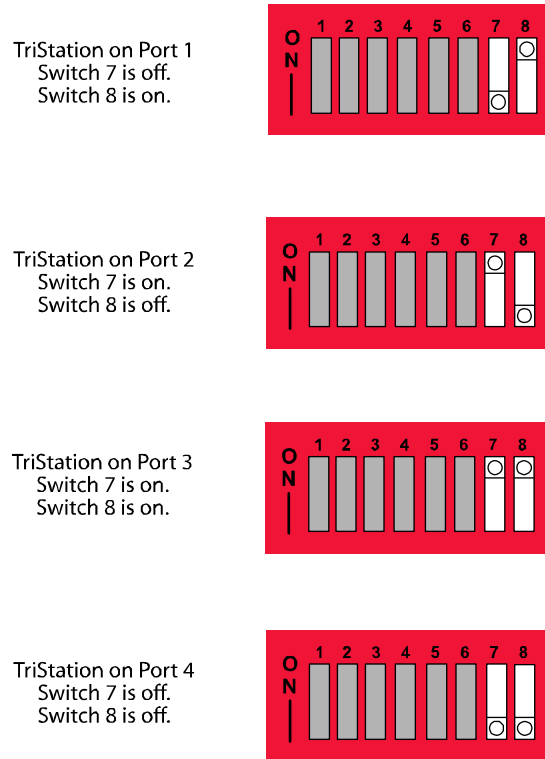

Figure 14 Using Switches to Change the Port Selection for EICM Serial Connection to TriStation
- 2 Use Figure 14 to set the switches for the TriStation port. Switches 7 and 8 determine the port used for the TriStation connection.